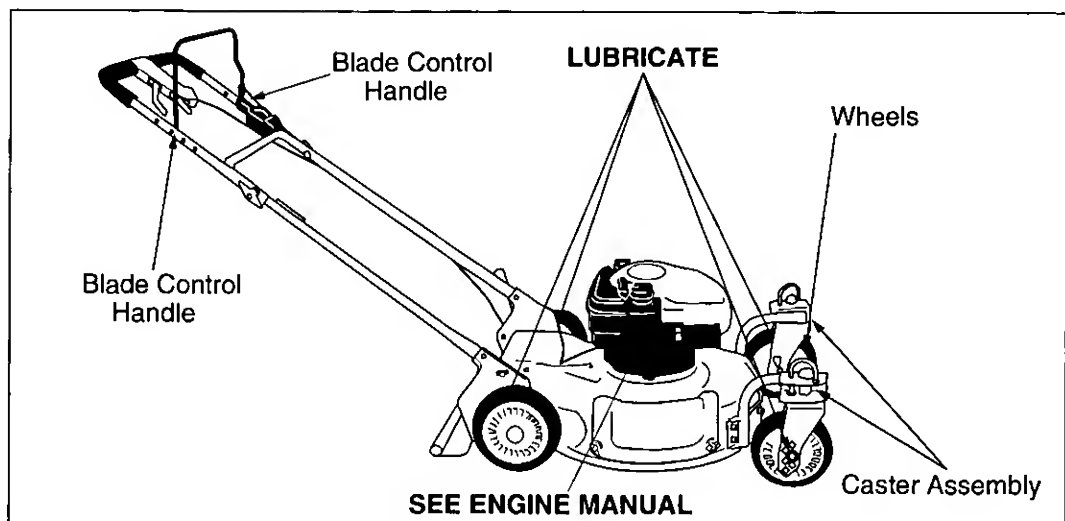

Figure 11
**Blade Control:** Lubricate the pivot points on the blade control handle and the brake cable at least once a season with light oil. See Figure 11. The blade control must operate freely in both directions.
**Wheels:** Lubricate the wheel at least once a season with light oil (or engine oil). Also, if the wheels are removed for any reason, lubricate the surface of the axle bolt and the inner surface of the wheel with light oil. See Figure 11.